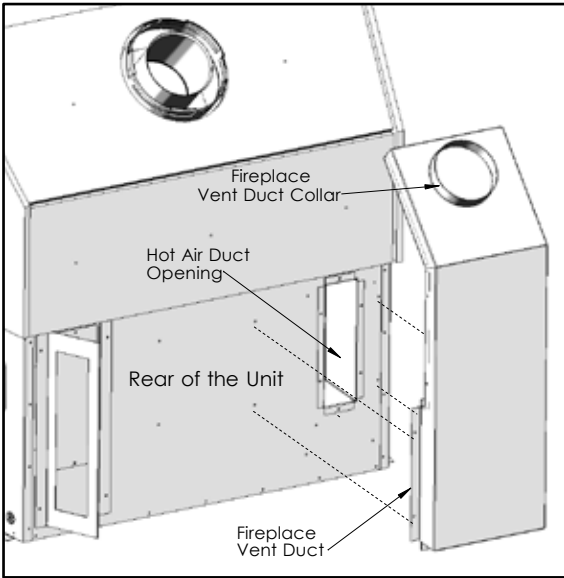

Figure 4: Install the vent duct kit.
- 3. Cover the hot air duct opening with the Fireplace Vent Duct (refer to Figure 4). Push the vent duct kit against the back of the fireplace and secure it in place with five (5) 1/4" HWH self drilling screws.